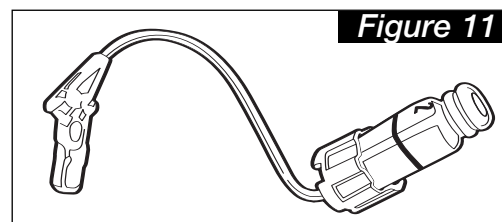

Figure 11
- Let the Retrofitted *Gruz Button™ Assembly* sit for 5 minutes. (Fig. 11) Then, reattach the receiver to the RIC-receiver body.
- While “RIC-receiver-with-*Gruz Button™*” assembly (Fig. 11) is drying, you can: